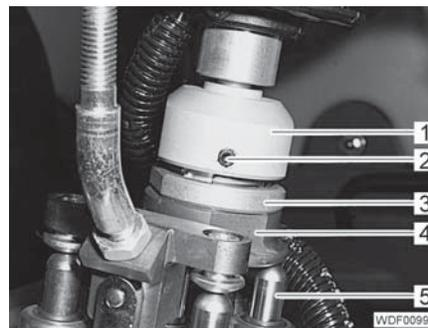

Fig. 212 Pilot control
- Loosen the stud screw (Fig. 212,2) but do not unscrew it.
- Adjust the desired resting strength on the adapter (Fig. 212,1):
- Tighten the stud screw (Fig. 212,2) hand-tight.
- Release the locking ring (Fig. 212,3).
- Twist the adjusting ring (Fig. 212,4) until it touches all pressure regulators (Fig. 212,5).
- Tighten the locking ring (Fig. 212,3).